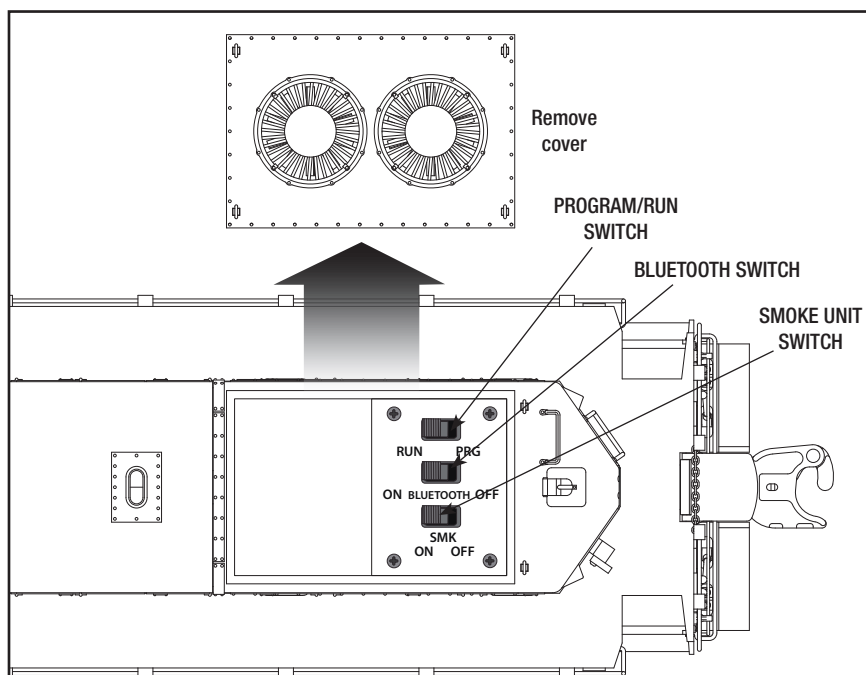

Figure 4. Switch locations
If you prefer to operate your locomotive without smoke, locate the smoke unit switch and slide it to the NO SMK position. Refer to Figure 4 on page 9 for the location of the switch.
The functions of your locomotive's switches are outlined below. Refer to Figure 4 for the location of the switches. ***The instructions below are specific to this particular locomotive; note that available features (and switches) may differ from other locomotives and locomotive sets.***
1. Slide the program-run switch on your locomotive to the PGM position. See Figure 4 on page 9.